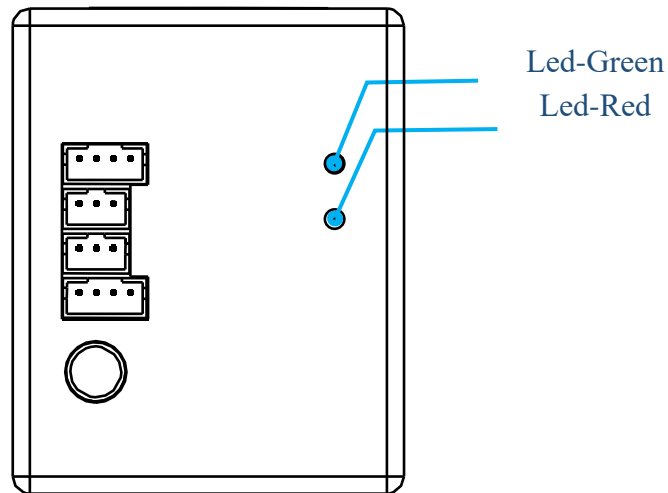

Figure3.47 LED light on Bluetooth expansion module
(2) Turn on the power of the manipulator. At this time, the red LED on the Bluetooth extension module starts to flash, indicating that it is waiting for the Bluetooth teach pendant to connect. The location of the red LED is shown in Figure 3.47.